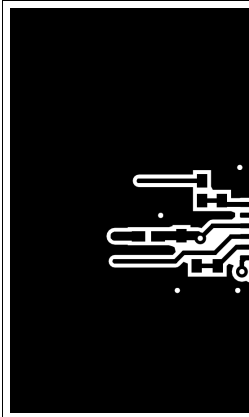
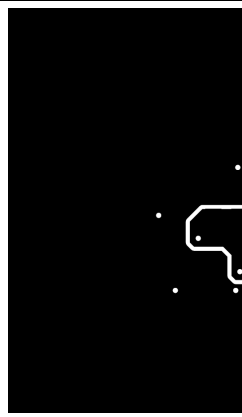

図 44. Top Layer Traces and Copper
図 45. Bottom Layer Traces and Copper
- Increasing the PCB copper connecting to VDDA, VDDB, VSSA and VSSB pins is recommended, with priority on maximizing the connection to VSSA and VSSB (see Figure 44 and Figure 45). However, high voltage PCB considerations mentioned above must be maintained.